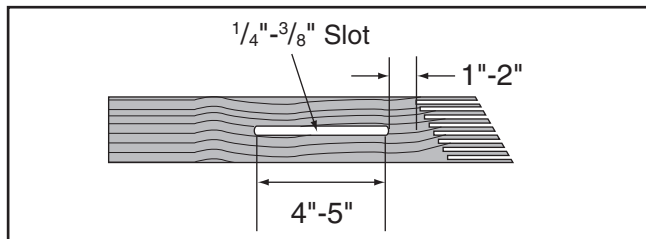

Figure 72. Slot routed in featherboard.
4. Rout a $\frac{1}{4}$ "- $\frac{3}{8}$ " wide slot 4"-5" long in the workpiece and 1"-2" from the short end of the featherboard (see **Figure 72**).